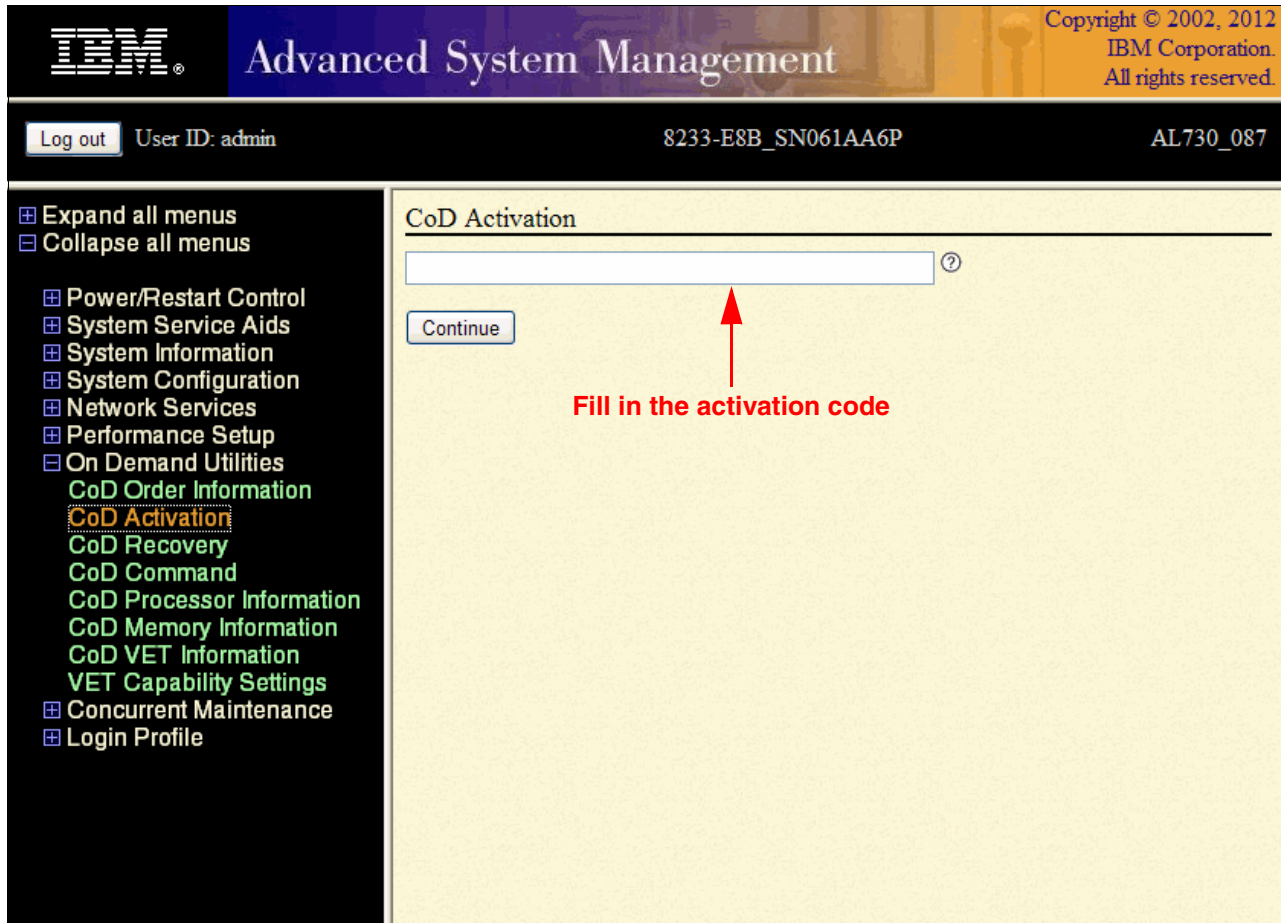

Figure 2-8 ASMI virtualization menu for code activation
5. Enter the activation code as soon as the system finishes booting. Expand the **On Demand Utilities** menu and click **CoD Activation**. Figure 2-8 shows the corresponding menu. Enter the code that is provided to activate the feature in the specific system and click **Continue**. A confirmation message is displayed.